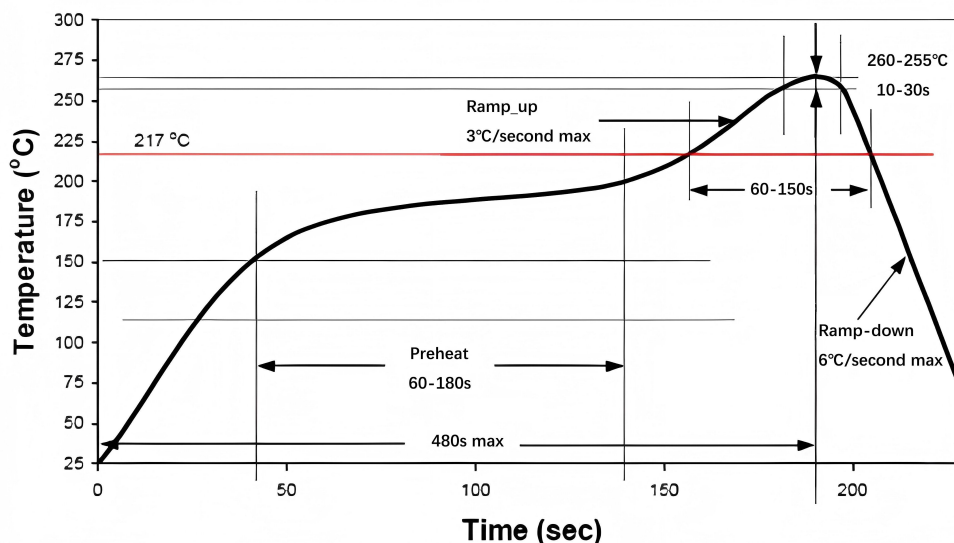

Fig.4 Reflow soldering temperature setting conditions
- The recommended reflow oven temperature setting conditions are shown in Figure 4.